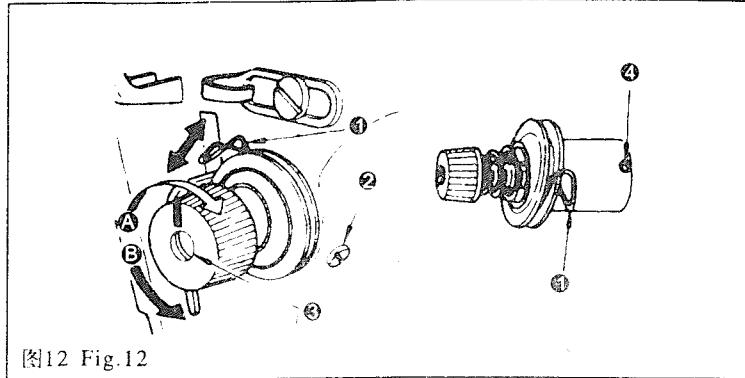

图12 Fig.12
8. 挑线簧(图12)
8. THREAD TAKE-UP SPRING (Fig.12)